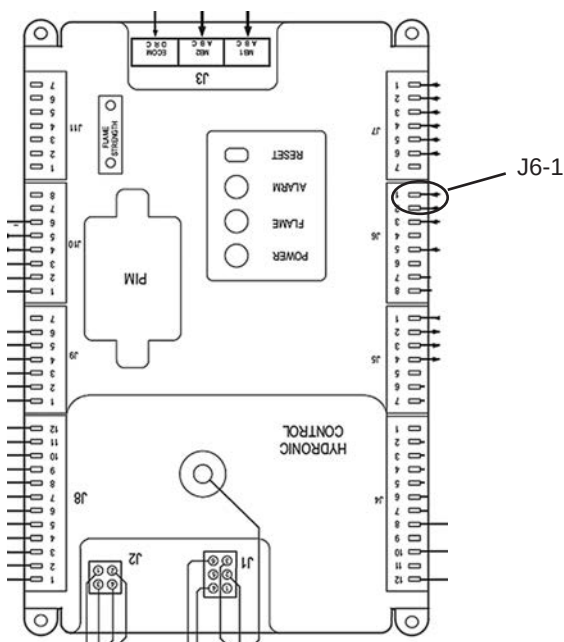

Fig. B1-6 - Checking the safety switches
10. Check for 24V AC between terminal J6-1 on the control module and any terminal on TB4. See Fig. B1-6. If 24V AC is present here, this means that the following safety switches are OK: